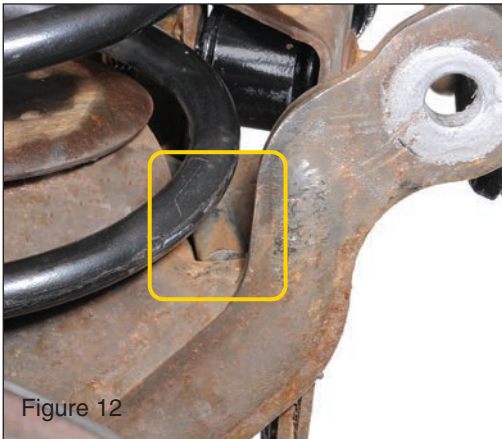

Figure 12
*Re install coil spring and index on bottom mount as shown (see FIG 12)